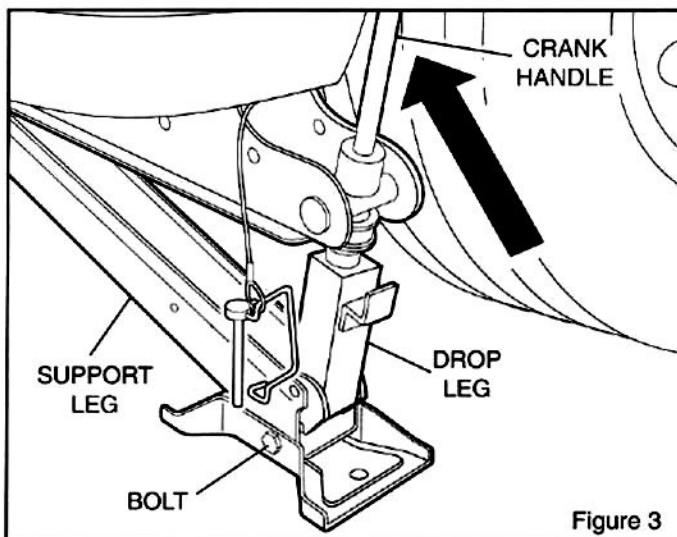

Figure 3
STEP 3. Push upwards on the crank handle to cause the drop leg to fully engage with the bolt in the support leg. See figure 3.